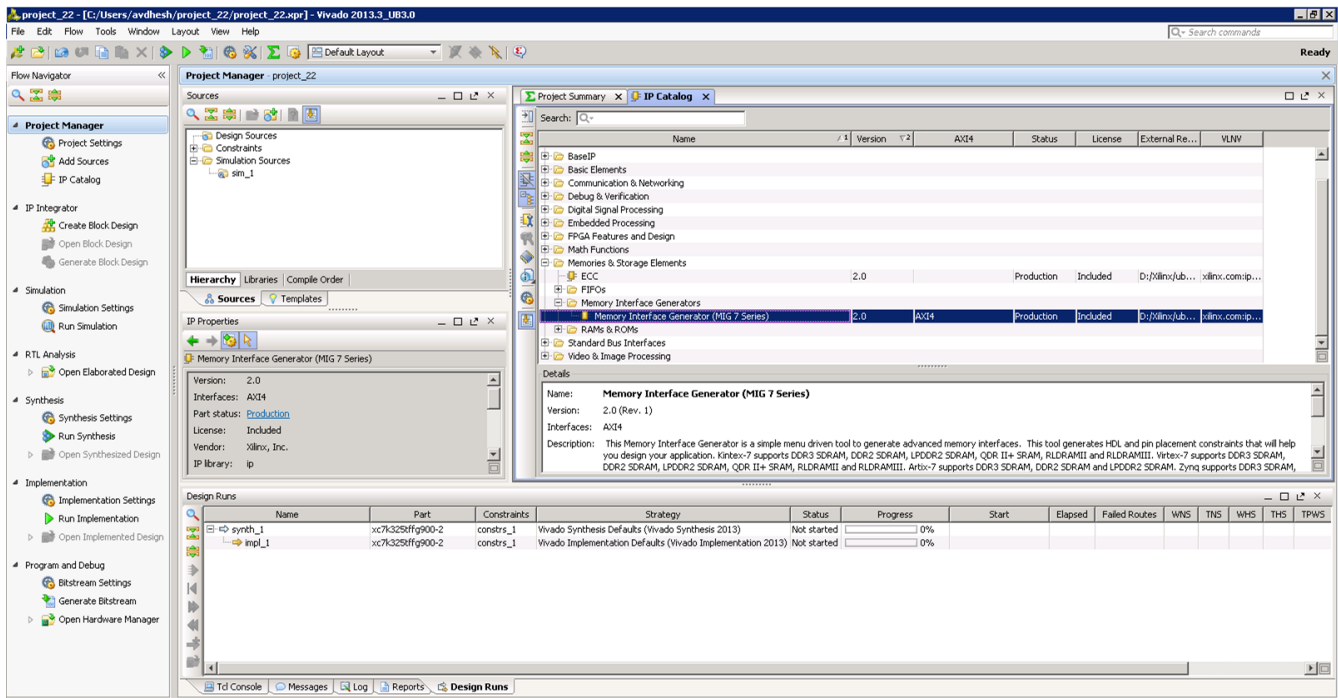

Figure 4-12: IP Catalog Window – Memory Interface Generator
11. Click **IP Catalog** on the **Project Manager** window to open the IP catalog window. The IP catalog window appears on the right side panel (see Figure 4-12, highlighted in a red circle).
12. The MIG tool exists in the **Memories & Storage Elements > Memory Interface Generators** section of the IP catalog window (Figure 4-12) or you can search from the Search tool bar for the string "MIG."